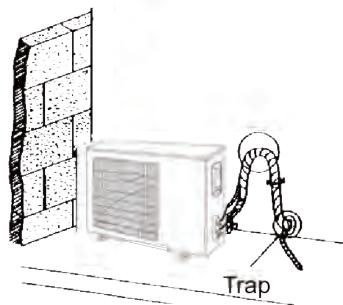

Fig. 4.16
- (2) If the outdoor unit is installed higher than the indoor unit (See Fig. 4.16)